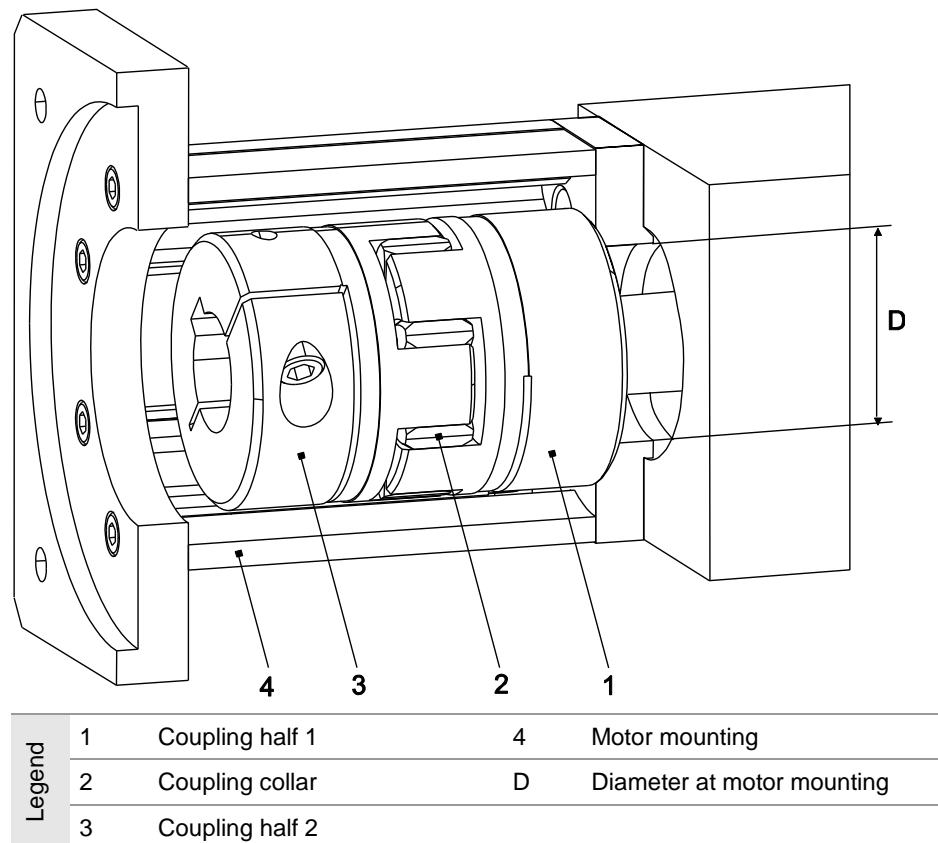

Figure 7 Motor mounting with motor coupling at drive journal
3. If the coupling diameter is smaller than the D measurement at the motor mounting (4), first mount the coupling half 1 (1) (bore flush with the drive shaft) and then the motor mounting (4) (Figure 7).